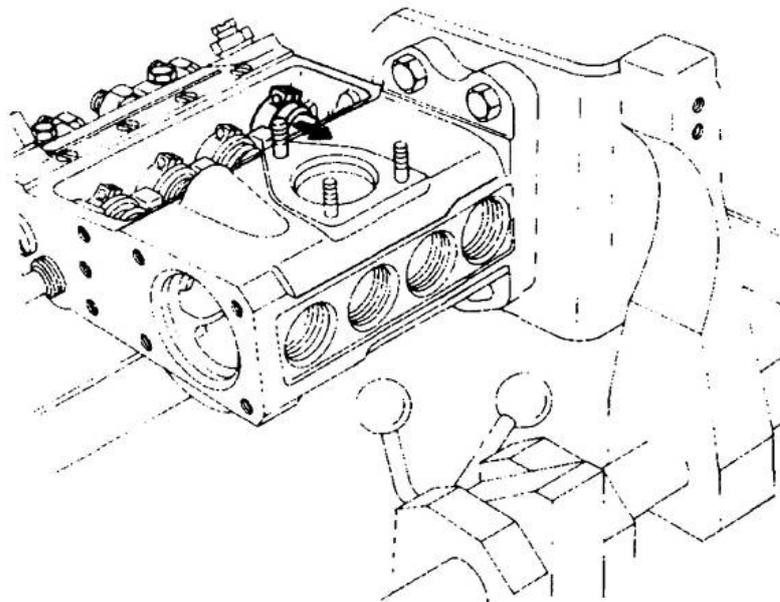

Figure 74 Removing the Control Sleeves
- w.** Remove the plunger return springs and the upper spring seats from the injection pump and remove the control sleeves from the barrel assemblies (Figure 74).